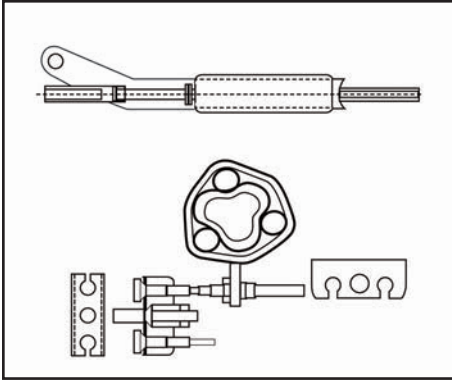

FIG 9.
9. Ensure the balance bar (compensation) is being pulled evenly. This bar (double on tandem axles) should always be paralleled with the axle tube when pulled. Adjust M8 lock and ball nuts, if necessary, to achieve correct parallel position (Fig. 9)
12. Adjust the two locking nuts, forward of the spring cylinder (Fig. 9) (on some chassis a single Nyloc nut is used) to give 1mm of clearance on the spring cylinder. This cylinder (the energy store for the handbrake operation) must be able to rotate only, not slide on the brake rod. (See Fig. 9) If the overrun assembly is fitted with a gas strut handbrake then no spring cylinder is fitted, ignore this paragraph.